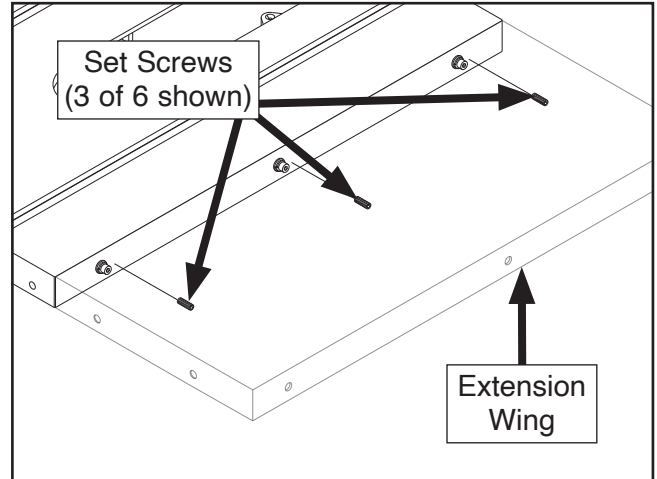

Figure 15. Extension wing set screw locations.
3. Thread (3) M8-1.25 x 10 set screws into each extension wing at locations shown in **Figure 15**.